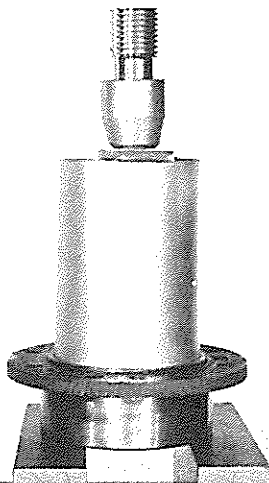
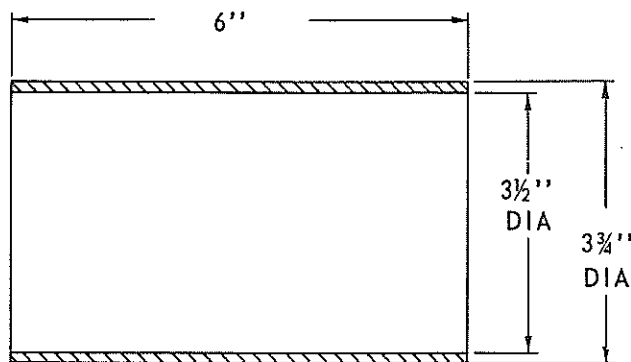
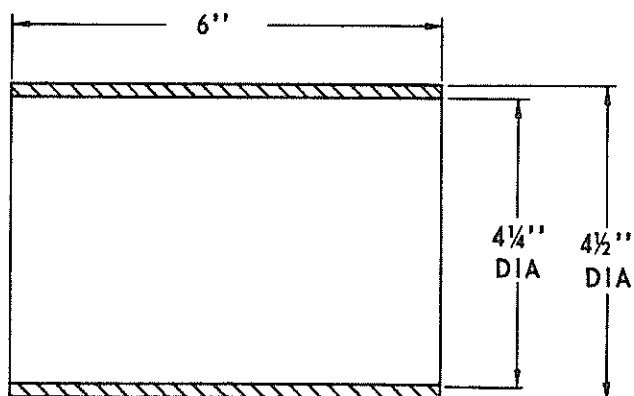

FIG. 80
FIG. 83
FIG. 81
5. On axle Part Nos. 130068, 130069, 131078, 131079, and 131599, press both bearing cups into pinion bearing cage (Fig. 80). Bearing driver dimensions are shown in Figs. 81 and 82. Axle Part Nos. 130064, 131076, and 131597 have only one bearing cup; press it into bearing cage using driver with dimensions as shown in Fig. 83.